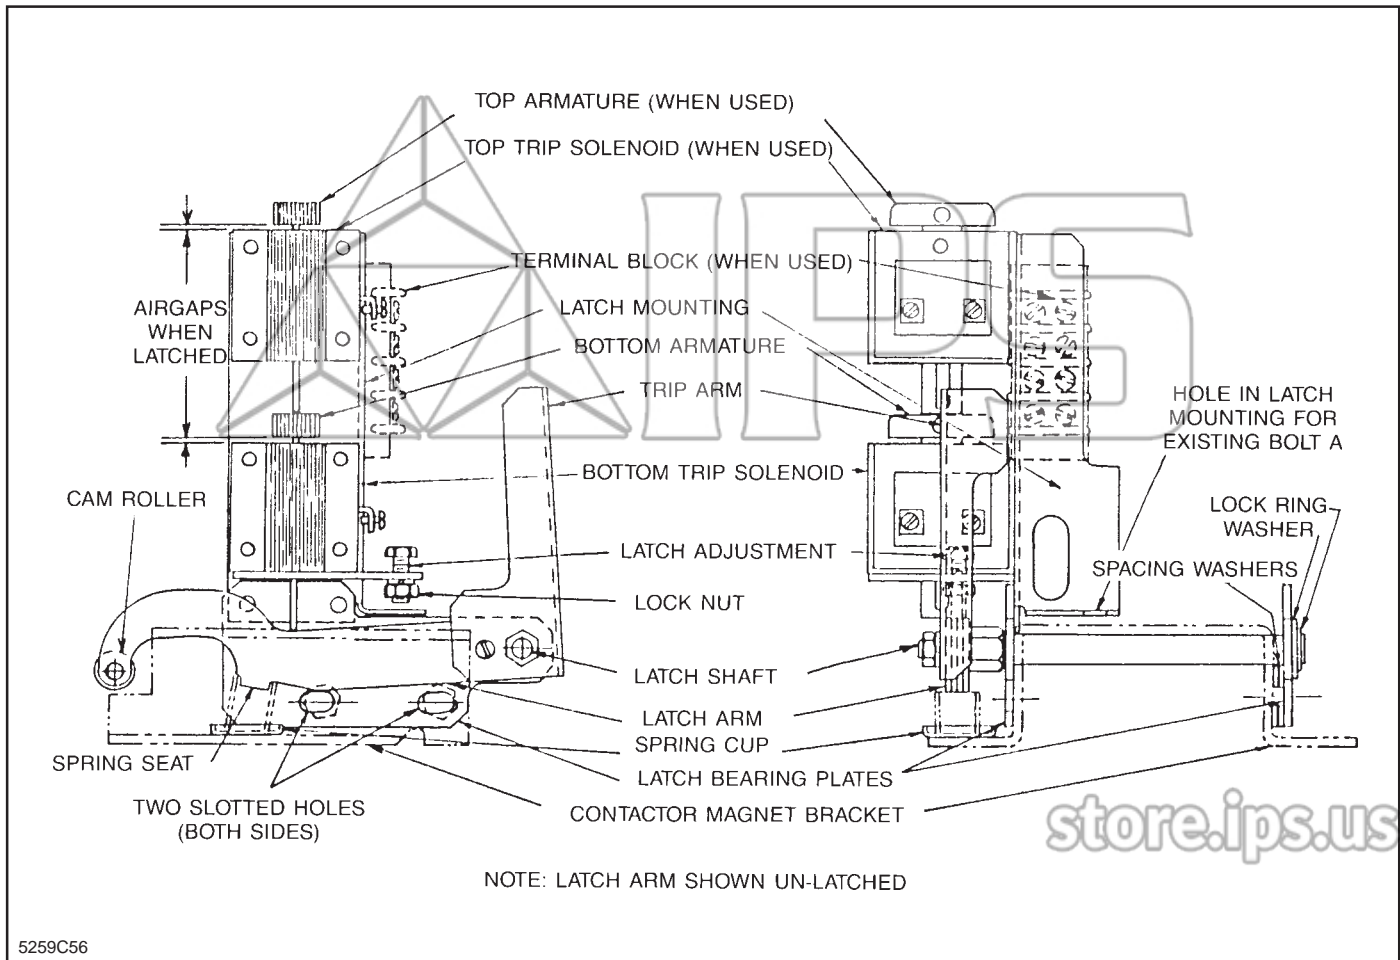
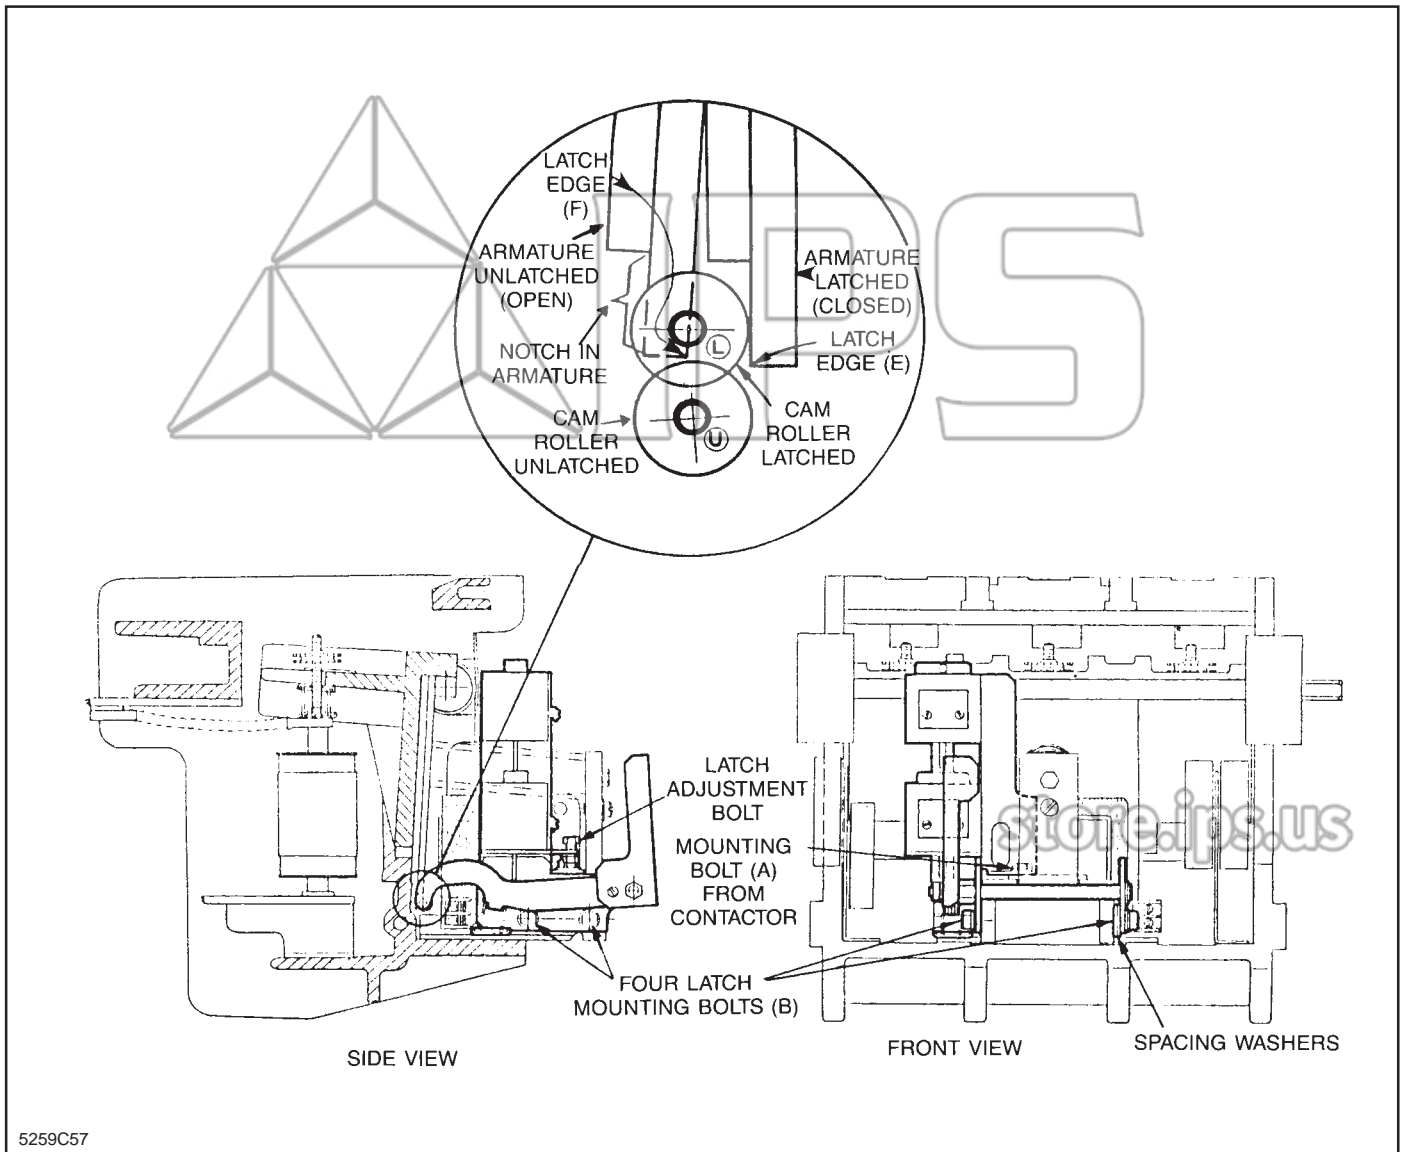

Fig. 3 Mechanical Latch Assembly
Fig. 4 Mechanical Latch Installed, 360A Contactor
Figure 3 shows a latch assembly before it is mounted on a contactor. The enlarged detail shown in Figure 4 shows the relationship between the cam roller on the end of the latch arm and a notch in the lower left corner of the contactor armature. When the latch is installed, it appears as shown in the lower portion of Figure 4.
Latch sensitivity can be understood by studying the inset of Figure 4, which is a magnified detail view showing the lower left corner of the armature and the cam roller. The cam roller travels between positions (U) and (L) through an arc around the latch shaft. In the unlatched (open) contactor position, the cam roller is in position (U). It cannot travel upward to position (L) even though the latch spring is pushing the latch arm upward because latch edge (F) of the armature stops it. However, when the contactor operating coil is energized, the armature rotates toward the magnet and latch edge (F) travels across the cam roller easily. As latch edge (E) passes the centerline of the cam roller, the roller starts moving
Remove the latch spring. Block the single or bottom (if there are two) solenoid open temporarily with a pencil or other shim on top of its magnet frame and underneath its armature. Hold the contactor in the fully sealed-closed position electrically, and manually close/open the latch using the trip arm. The latch should move easily. If it does not move freely, check the roller end of the latch arm to see if the latch arm rubs against the armature. To eliminate rubbing, loosen the two latch mounting bolts (B) (Figure 4 or Figure 5) on the right side and move the right latch bearing plate rearward until the latch arm clears the armature. Retighten the mounting bolts. Re-check for free motion.
Next, hold the contactor in the fully sealed-closed position, operate the latch with the trip arm, then release the trip arm abruptly. The latch should fall freely into the open position. If it doesn't, the “free-play” clearance is insufficient. To increase the clearance on a 360A contactor, loosen all five latch mounting bolts (A) and (B) (Figure 4) and tap both the left and right bearing plates rearward a few thousandths of an inch. Re-tighten the five bolts and recheck both the free-fall release and the freedom from rubbing between the latch arm and the armature. To increase the clearance on a 720A contactor, loosen all four latch mounting bolts (A) and (B) (Figure 5) and tap both bearing plates rearward as explained above. Re-tighten and recheck as explained above.